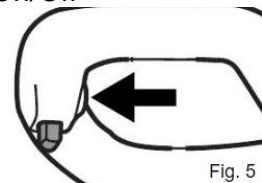

Fig. 5
3. To stop the mixer, depress the On/Off trigger down and then release (Fig.5).